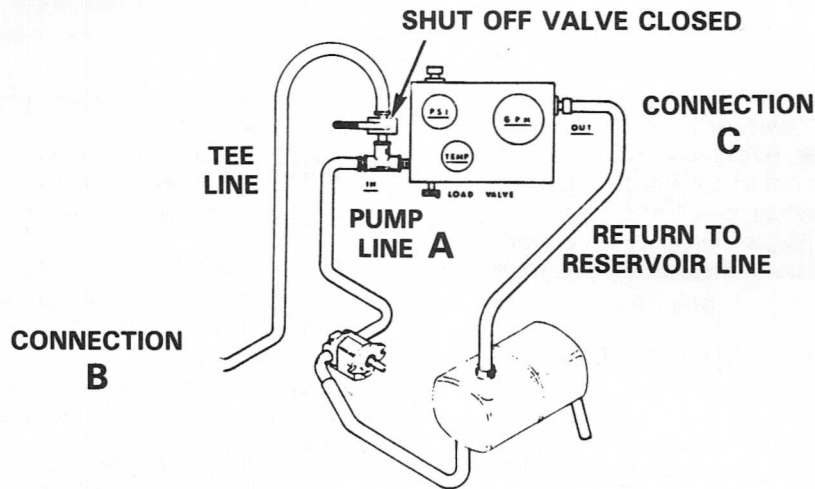
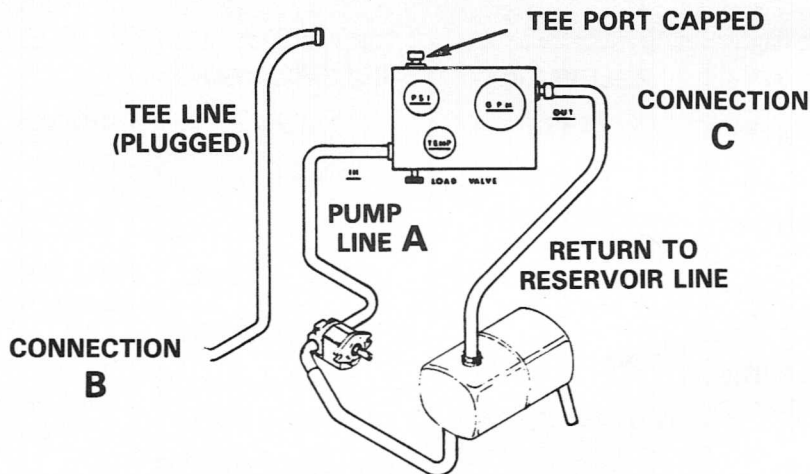

Figure 1 - Flowmeter Connections with High Pressure Tee and Shut-off Valve --
Figure 2 - Flowmeter Connections with Isolation Cap in Tee Line --
Two types of Hydra-Sleuths are currently being used. Type 1 has high pressure tee and shut-off valve as in Figures 1 & 5. Type 2 has internal tee line and isolation cap as in Figures 2 & 6.
1. Determine type of flowmeter you have as shown in Figures 1, 2, 3 or 4.